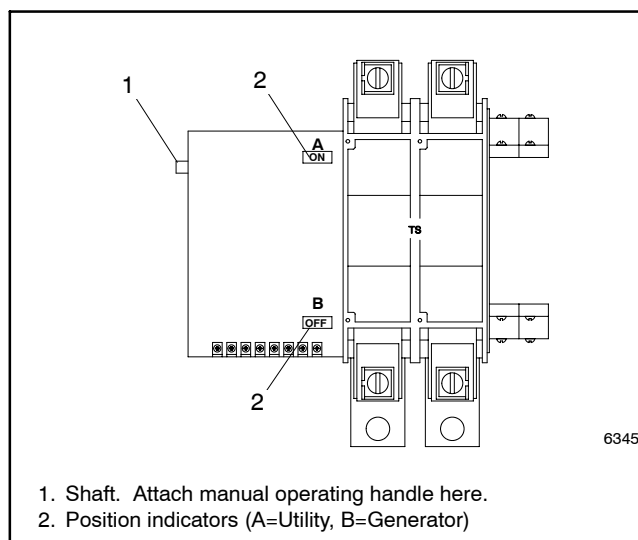
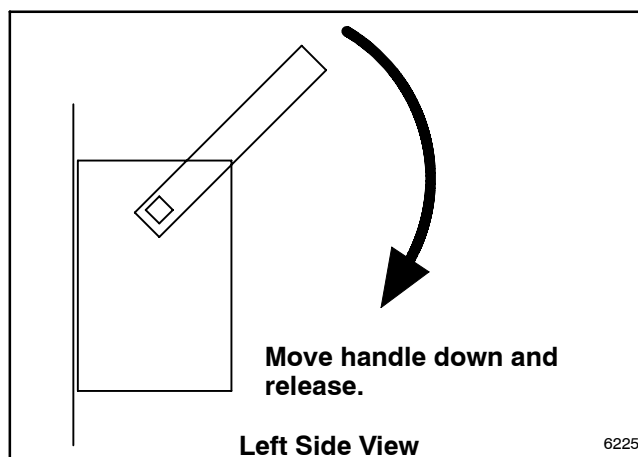

Figure 2-14 400 Amp Contactor
Figure 2-15 Manual Operation, 400 Amp
1. Check the contactor position, indicated by the A and B position indicators. See Figure 2-14. One position indicator will display ON to indicate the source position. A is utility power and B is the generator set.
2. Slide the manual operating handle (provided with the switch) over the shaft on the left side of the switch. See Figure 2-14 and Figure 2-15.